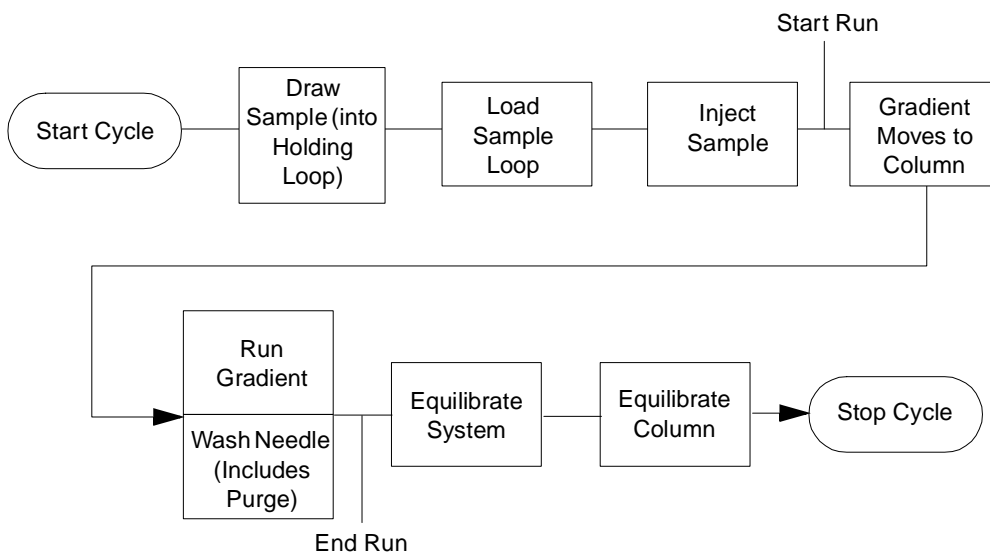

Figure 6-5 Sequential Processing Cycle for Gradient Chromatography
- **Sequential** (traditional) **chromatography** (Figure 6-5) – All operations are performed in sequence (one after the other).
In sequential processing (traditional chromatography), most LC system operations occur in series (Figure 6-5). However, in all three processing modes, the needle-wash and purge cycles occur in parallel with the gradient separation.